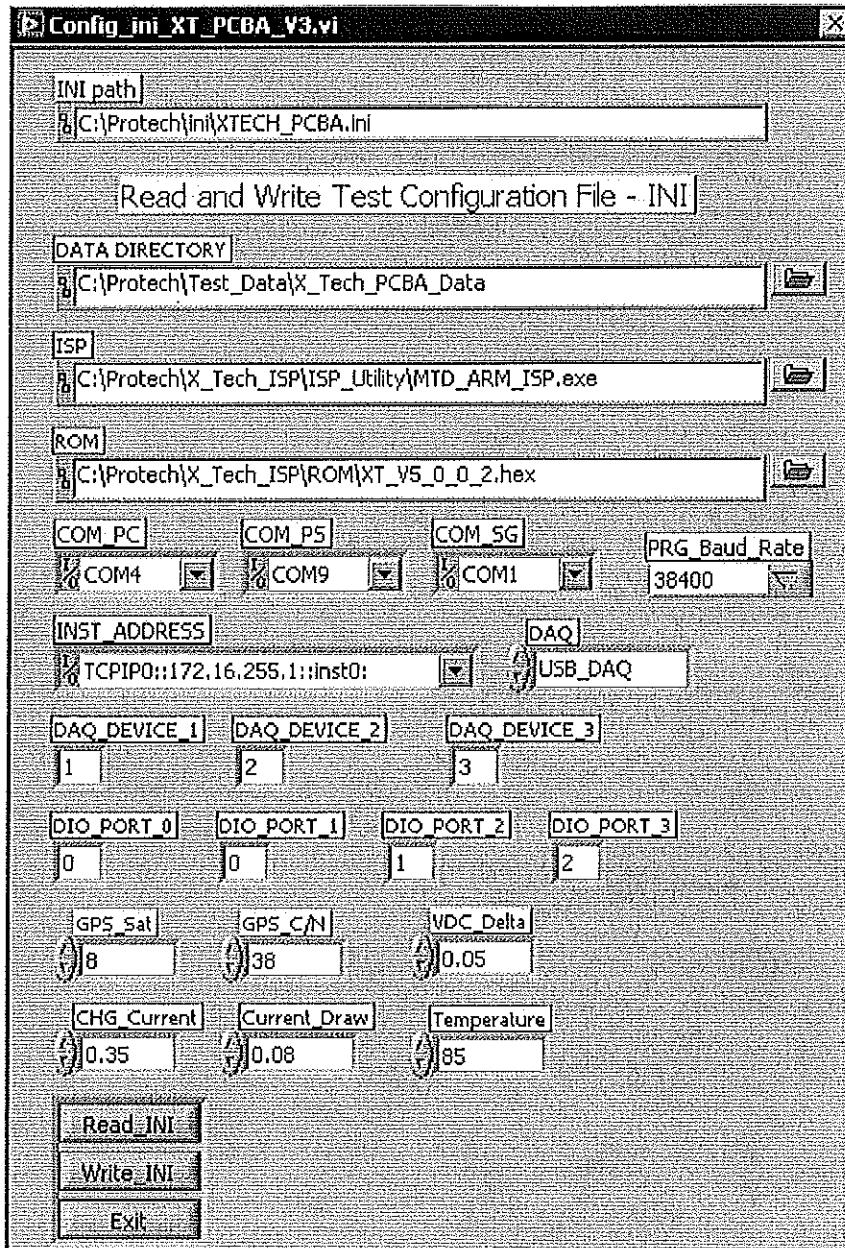

Figure 4 – PCBA Test Configuration ini window.
2. The “Config\_ini\_XT\_dB\_V1” window will open (Figure 4).